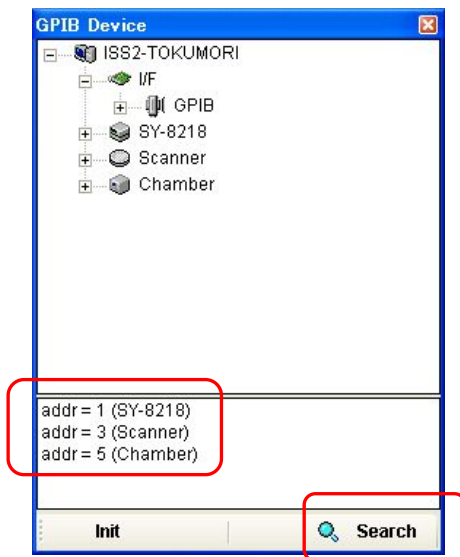
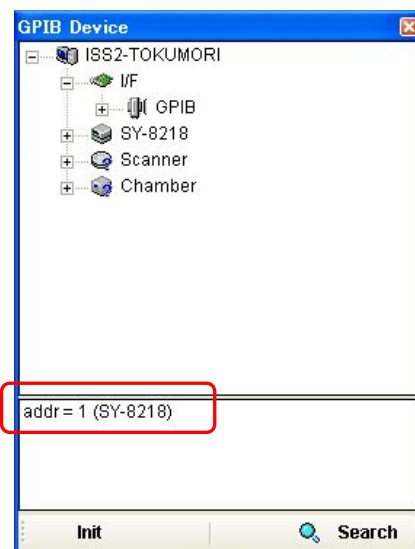

Figure 3-84 Device window
Figure 3-85 Device window
- ② "Device" window displays connection statuses of devices. Figure 3-84 shows connection status of B-H Analyzer: SY-8218, the constant temperature chamber, and the scanner and their GPIB addresses (see Table 2-2). And Figure 3-85 shows connection status of only B-H Analyzer: SY-8218. "Search" button is pressed, connection status of devices are searched again. Moreover, the connection of SY-956 and SY-960 is not displayed.